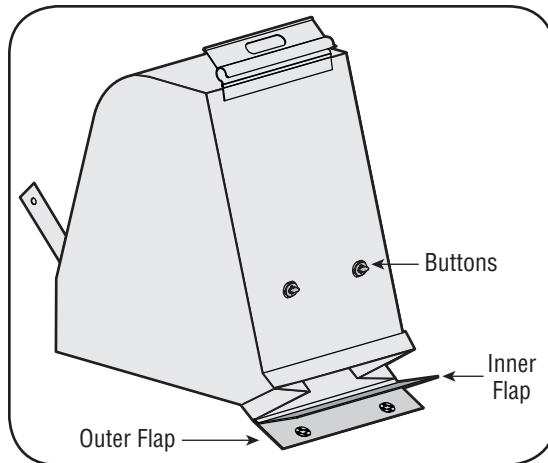

Figure 4-5
5. Twist the two buttons on the back of the bag to unlock and empty contents. See Figure 4-5. Hold bag handle and bag clip while emptying the contents.
7. Fold outer flap over inner flap and insert buttons on the bag through metal outlets. See Figure 4-5.